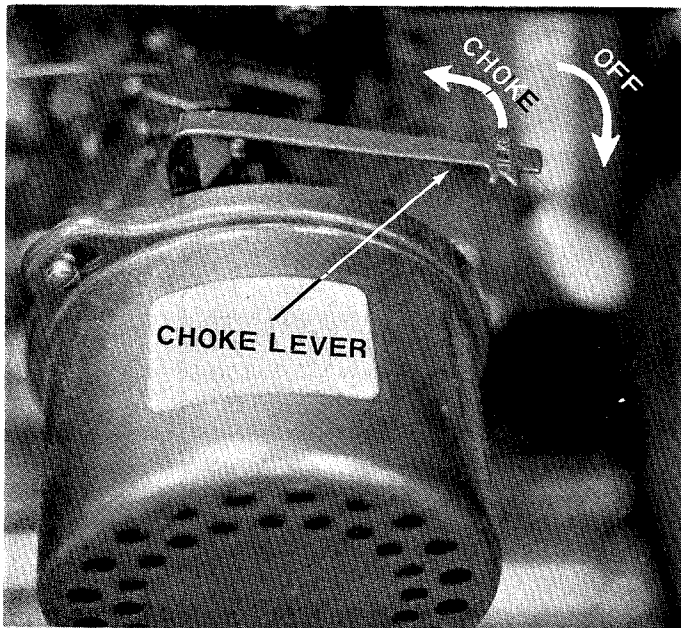

FIGURE 7
- Move choke lever to CHOKE position. See figure 7.